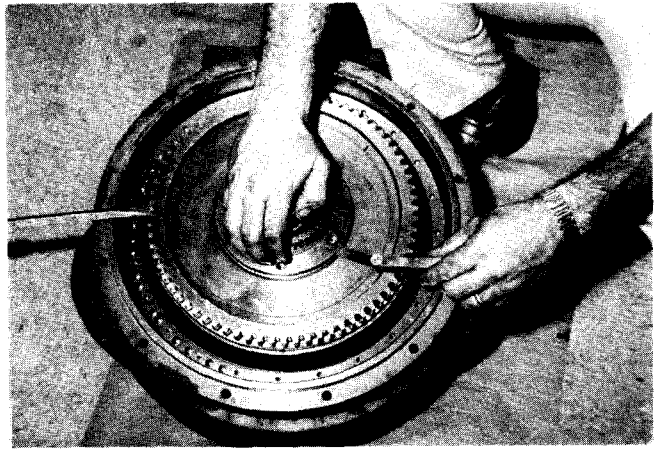

Figure 44
Using pry bar, lift converter assembly upward to make sure bearing snap ring on bearing is bottomed out in groove of drive housing. Place input drive hub (Item 3) onto assembly. DO NOT BOLT DOWN. Using a feeler gauge, measure gap between converter drive housing and input drive hub in four equally spaced places around diameter. Insert annular shims as required on outer race of bearing assembly, and between input drive hub to obtain .005 to .015 gap between input drive hub and converter drive housing (Figure 44). Install six (6) bolts (Item 1) and torque to 30-40 ft. lbs.